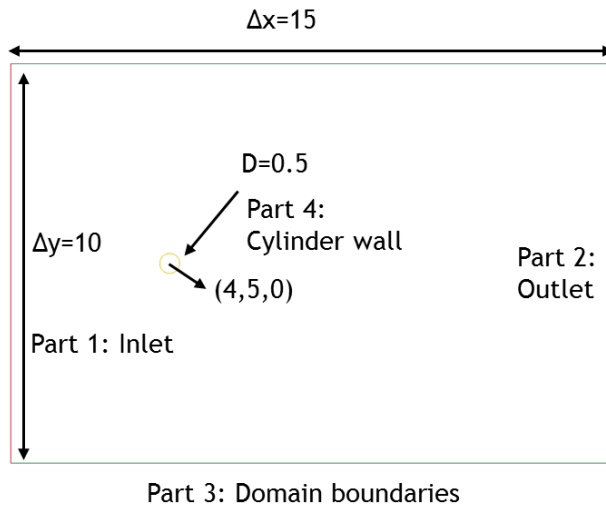

Figure 2 Geometry of the example.
18. If the geometry looks like Figure 2 press **Exit** in the 2D Mesh Generation window.